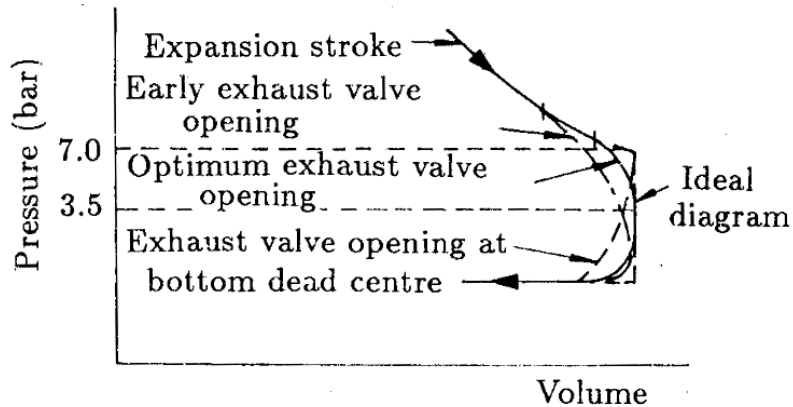

Fig. 5.9 Effect of Exhaust Valve Opening Time on Blowdown
- The best compromise is to open the exhaust valve 40° to 70° before BDC thereby reducing the cylinder pressure to halfway to atmospheric before the exhaust stroke begins as shown in Fig.5.9 by the roundness at the end of the diagram.